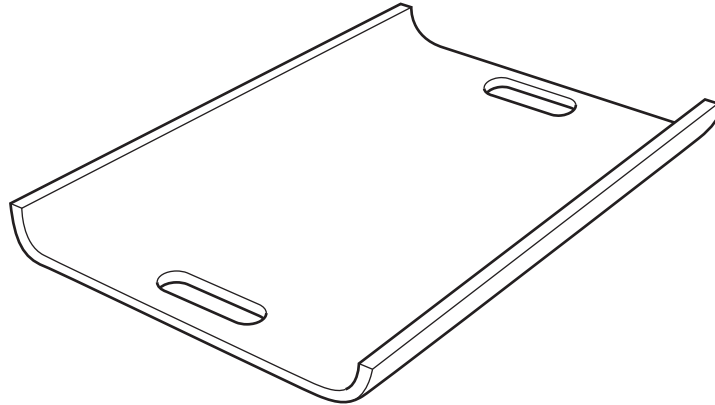

Fig. 6
- 5 Fig. 6 shows a design for a tray to be used to carry cups, saucers and plates. The tray has been made from sheet plastic with the aid of a male and a female former.